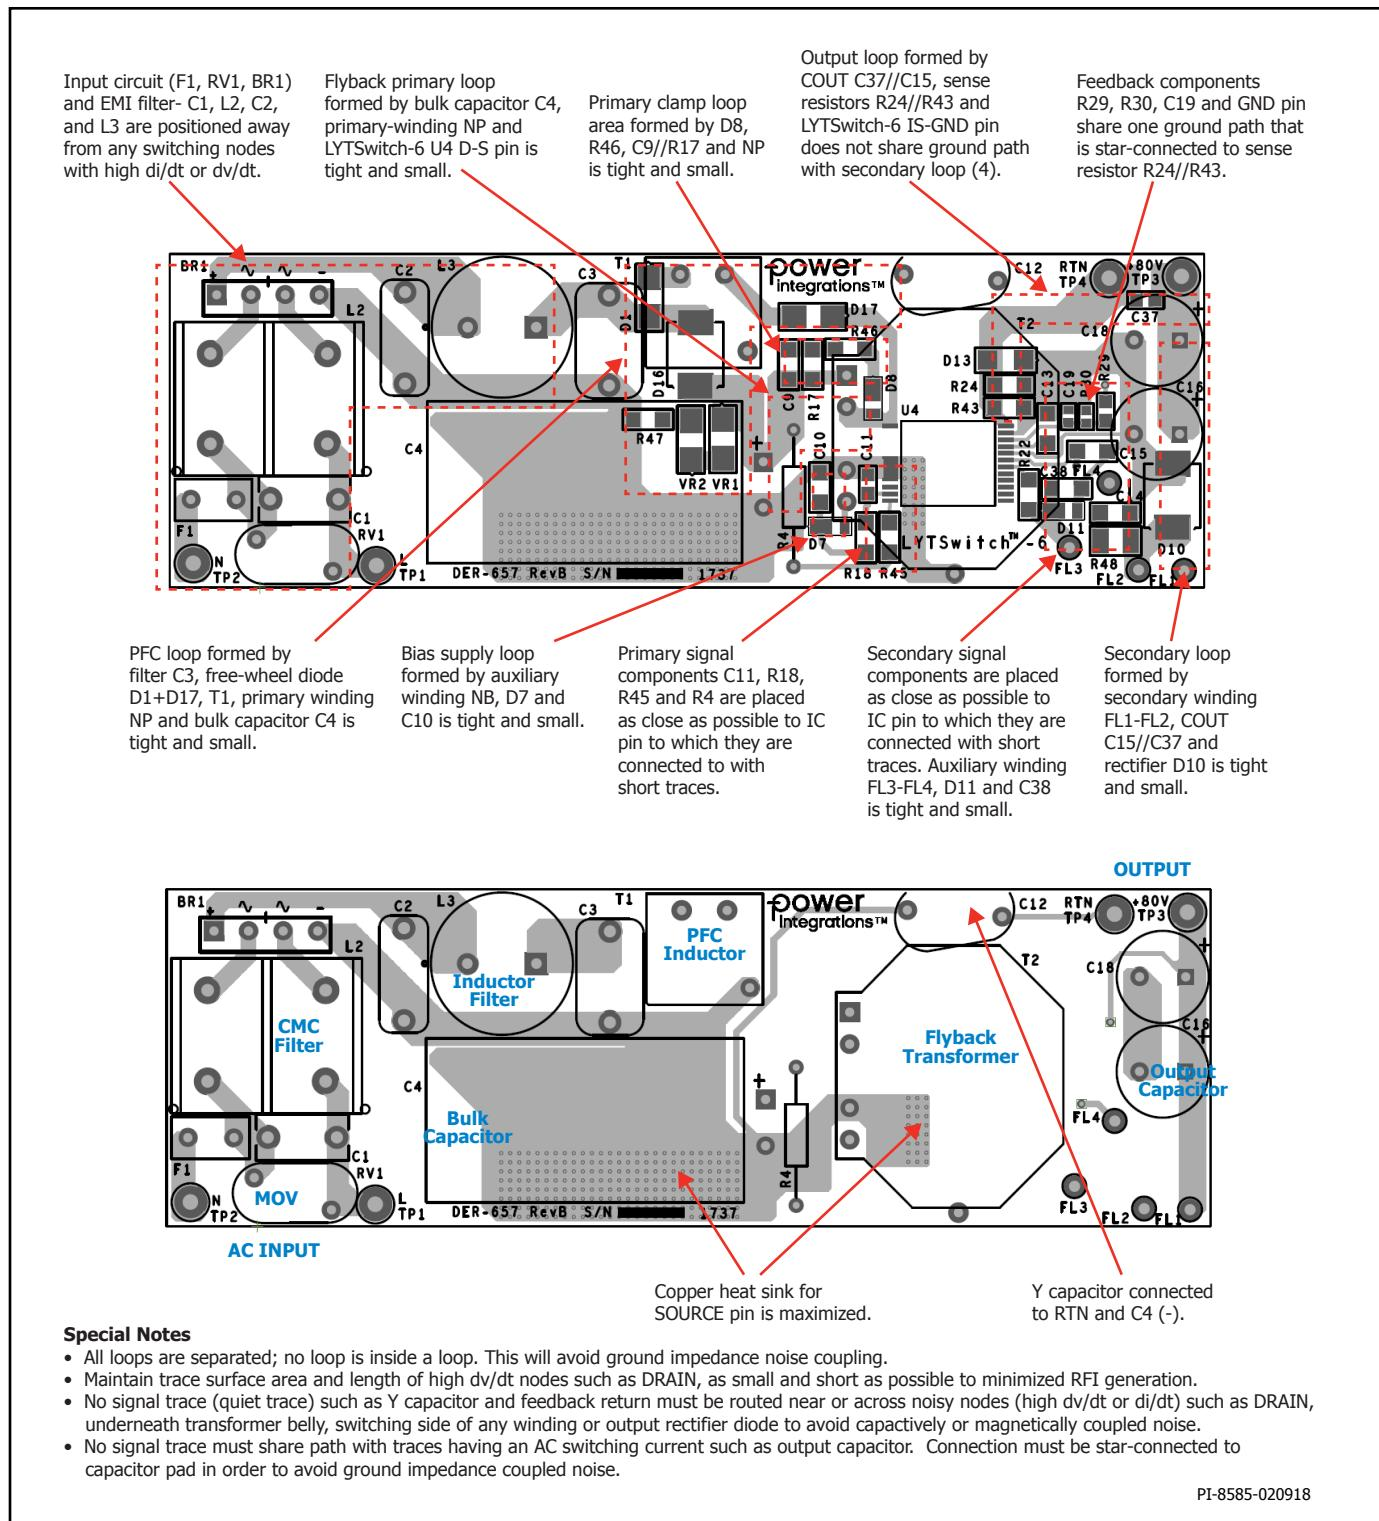

Figure 18. *TOP and BOTTOM Sides – Ideal Layout Example Showing Tight Loop Areas for Circuit with High dv/dt and di/dt . Component Placement.*
For output constant current (CC) operation, external current sense resistor R_{IS} should be connected between the ISENSE pin and the SECONDARY GROUND pin of the IC as shown in Figure 18. If constant current (CC) regulation is not required, this pin should be connected to the SECONDARY GROUND pin of the IC.
Use a single-point ground connection from the input filter capacitor to the area of copper connected to the SOURCE pin. See Figure 18.
Loops for circuits with high dv/dt or di/dt should be kept as small as possible. The area of the primary loop – input filter capacitor to transformer primary winding to IC should be kept small. Ideally, no loop should be inside another loop (see Figure 18). This will minimize cross-talk between circuits.
1. Appropriate component placement and small loop areas for the primary and secondary power circuits minimizes radiated and conducted EMI. Care should be taken to achieve a compact loop area. (See Figure 18)
7. A π filter comprising differential inductors and capacitors can be used in the input rectifier circuit to reduce low frequency differential EMI. A ferrite bead (Figure 18) can be added to further improve EMI.